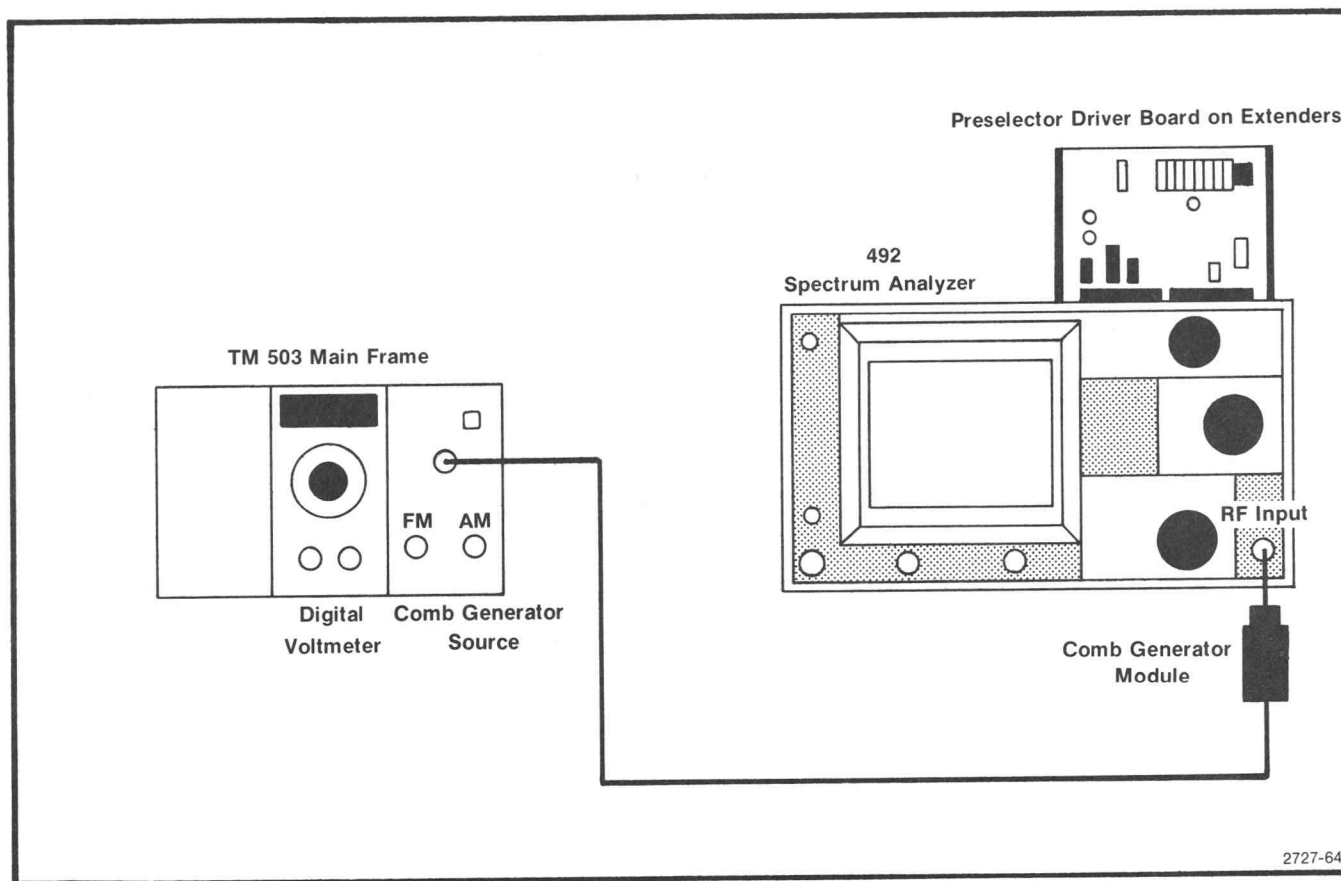

Fig. 3-51. Test equipment setup for calibrating Preselector Driver.
a. Turn POWER off, pull Preselector Driver and install on extender board, (Fig. 3-51) then switch POWER on.
g. Remove the Calibrator signal to the RF INPUT and connect the output of the microwave comb generator to the RF INPUT (see Fig. 3-51). Change the REF LEVEL to 0 dBm. Now tune the CENTER FREQUENCY to 5.5 GHz and center the 5.5 GHz comb marker on screen. Press DEGAUSS, then recenter the 5.5 GHz signal.